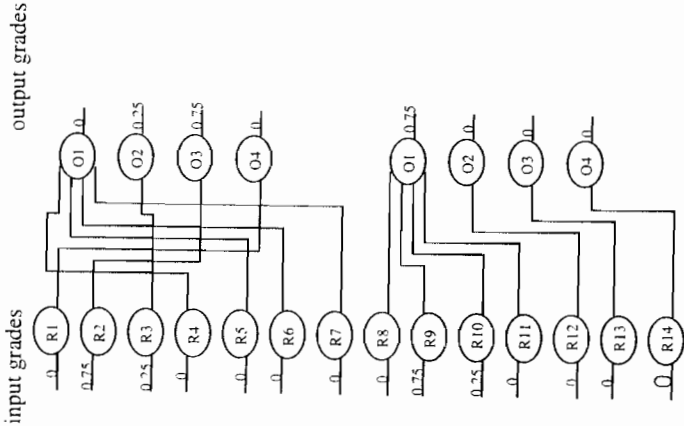

Figure 1.12 Rule Evaluation step generating output grades from input grades
The rule evaluation step computes the grade of each output label. This step, in general, involves rather complicated operations. Our example (included for tutorial purposes), however, is straightforward and does not demonstrate them. In our example, the rule are just straight channels through which the grades flow from the input label to the output labels. We illustrate the flow by writing the grades of the output labels obtained in this step, leaving the general case for deferred discussion (Figure 1.12)
Note: Occasionally, lines from several lines may meet at the same output label, as the two (0)'s in Figure 1.12. This is caused by the fact that several rules share the same conclusion, as the rule (R8) through (R11). In this case, the highest grade coming to the output is written on the right of the label. The reason why the highest grade is taken will be discussed later. At present, we just regard it as an implementation of this principle: if among different alternatives, there is one that stands out as the most reasonable based on all available factors, then choose it.